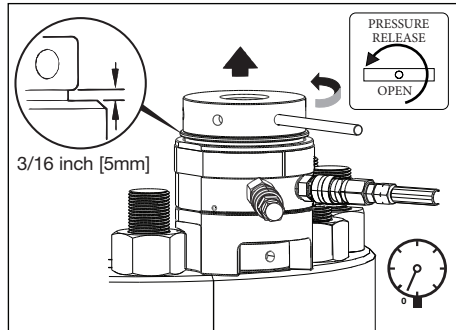

FIGURE 16, TURNING UP THE THREADED PULLER
2. BEFORE applying any hydraulic pressure, turn up the threaded puller at each stud as required, so that approximately a 3/16 inch [5 mm] gap appears between the fully retracted piston and the threaded puller. See Figure 16.